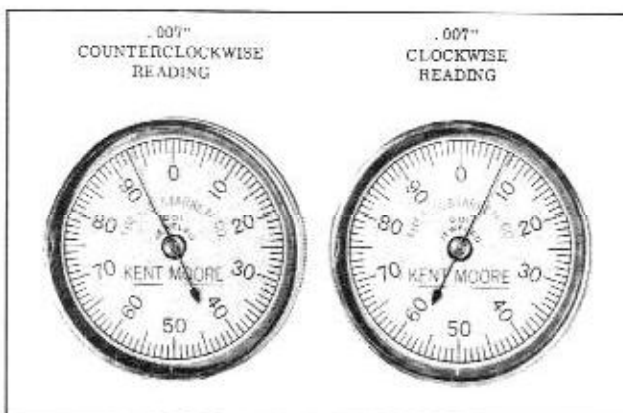

Figure 6-22 Reading Gauge
5. Press gauge firmly toward pinion and read dial indicator, noting whether the needle has moved clockwise or counterclockwise from the "0". (Fig. 6-22)